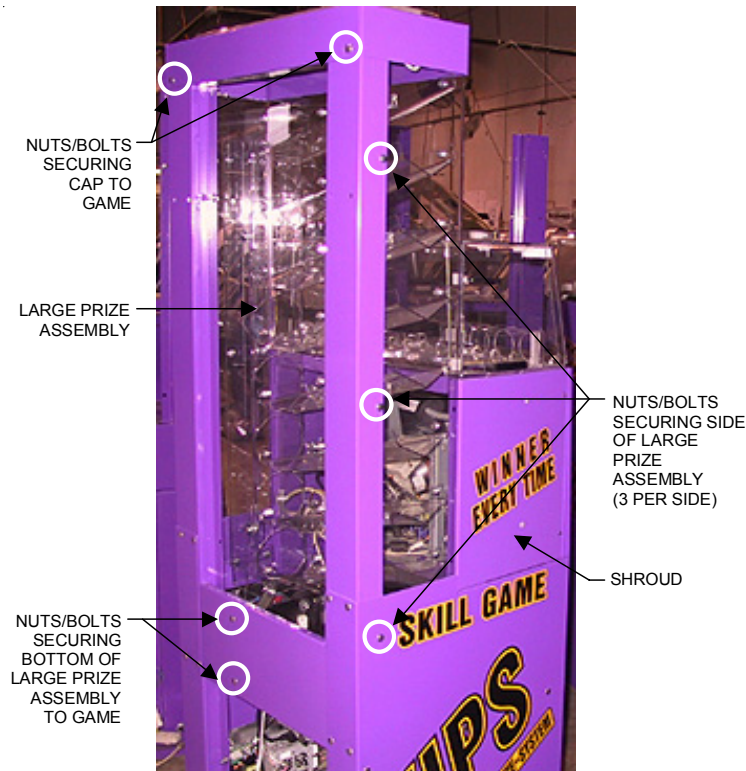

FIGURE 21 - SIDE/REAR VIEW OF GAME
3. To remove the large prize assembly, first remove the 2 nuts and bolts fastening the cap and unplug the fluorescent light assembly, then remove the remaining 8 nuts and bolts fastening the prize assembly to the game. The cap and prize assembly can be removed together. See Figure 21.
16. Replace the cap and large prize assembly, then replace the 8 nuts and bolts fastening the prize assembly to the game. Then replace the 2 nuts and bolts fastening the cap to the game and plug in the fluorescent light. See Figure 21.